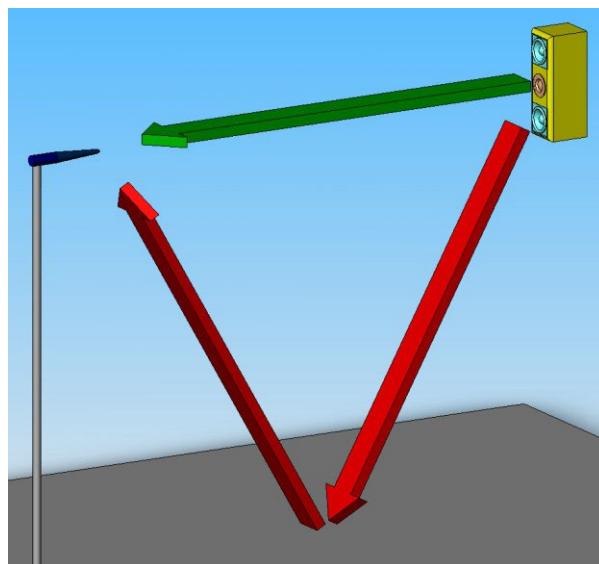

Figure 17 - Satellite Close to Floor, Red is Reflection
Figure 17 is illustrating the problem where the reflection from the floor is too close to the main signal, because there is little difference between the direct distance (green arrow) and the reflection
However, you can see another strong impulse arriving already about 2.5ms after the main impulse. That is the reflection from the floor, which is only 82cm below the speaker and microphone, Figure 17.
- 7.4. The idea is to choose a window which will pass the decaying pulse, but avoid the reflections which arrive later (see for example Fig. 17)